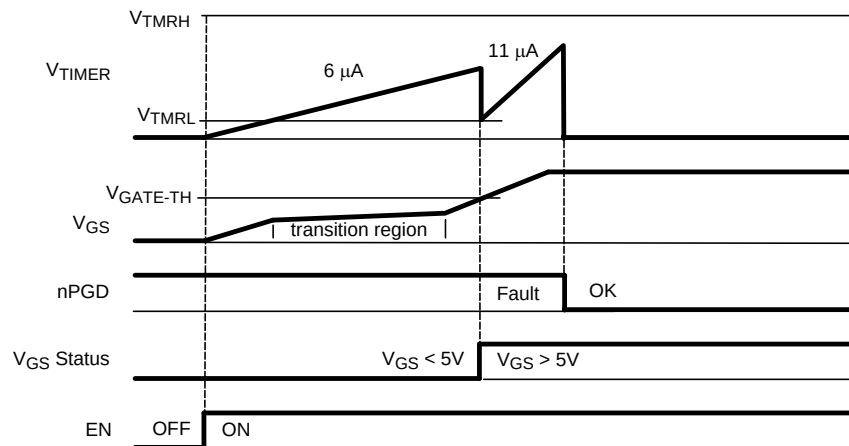
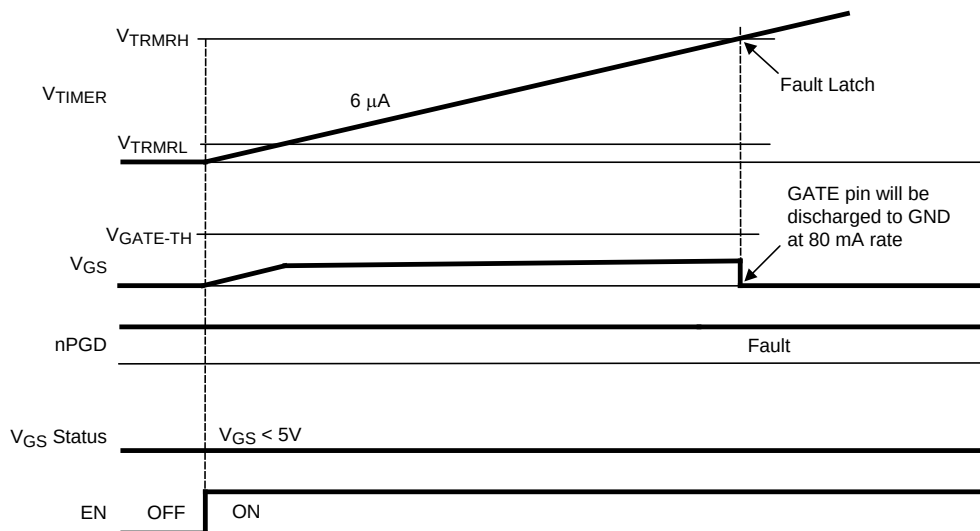
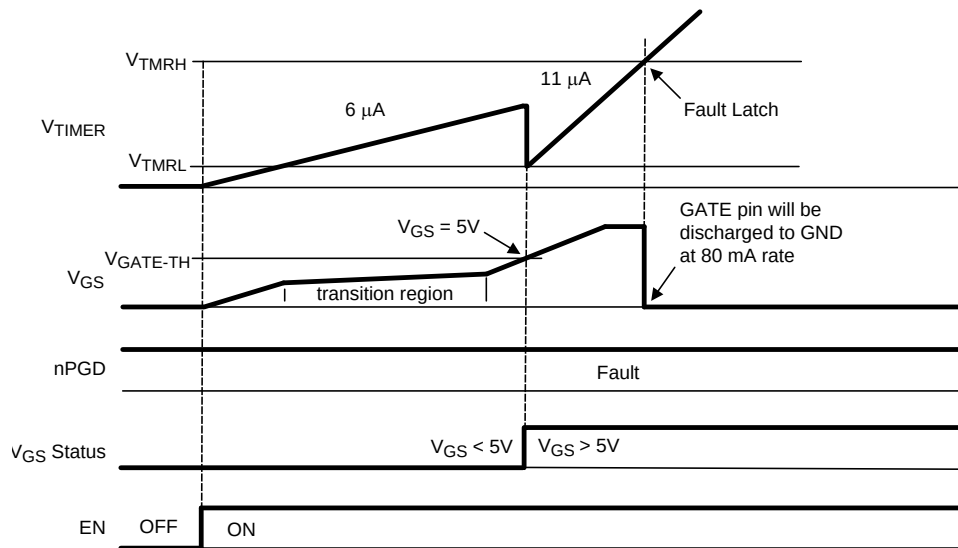

Figure 22. Voltages During Normal Start Up Sequence
Figure 23. Voltages During Startup with V_{GS} Gate Leakage Condition
Figure 24. Voltages During Startup with V_{DS} Fault Condition
After applying sufficient system voltage and enabling the LM5060 by pulling the EN and UVLO pins high, the timer capacitor will be charged with a 6 μ A (typical) current source. The timer capacitor is discharged when the voltage difference between the GATE pin and the OUT pin (i.e. V_{GS} of the external N-Channel MOSFET) reaches the $V_{GATE-TH}$ threshold (typically 5V). After discharging, the timer capacitor is charged with 11 μ A until either the V_{TMRH} threshold (typically 2V) is reached, or the sensed V_{DS} voltage falls below the threshold of the V_{DS} Fault Comparator, indicating the output voltage has reached the desired steady state level. The timer capacitor voltage waveforms are illustrated in Figure 22, Figure 23 and Figure 24.
2. Figure 23 shows a start-up waveform with excessive gate leakage. The initial charge current on the timer capacitor is 6 μ A (typical), while the simultaneous charge current to the gate is 24 μ A (typical). Due to excessive gate leakage, the 24 μ A is not able to charge the gate to the required typical 5V V_{GS} threshold and the V_{DS} Fault Comparator will indicate a fault when the timer capacitor is charged to the V_{TMRH} fault threshold. When the timer capacitor voltage reaches the V_{TMRH} fault threshold (typically 2V) the MOSFET gate is discharged at an 80 mA (typical) rate.
The LM5060 includes a V_{DS} Fault Comparator that senses the voltage difference between the SENSE pin and the OUT pin. If the voltage at the OUT pin falls lower than the voltage at the SENSE pin, the V_{DS} Fault Comparator will trip and switch the nPGD pin to a high impedance state. It will also initiate charging of the capacitor on the TIMER pin with a 6 μ A (typical) current source if V_{GS} is less than 5V, or a 11 μ A (typical) current source if V_{GS} is higher than 5V. If the voltage on the TIMER pin reaches the typical 2V fault threshold, the gate of the N-Channel MOSFET is pulled low with a 80 mA (typical) sink current. Figure 24 illustrates a V_{DS} fault condition during start-up. The nPGD pin never switches low because the V_{DS} fault comparator detects excessive V_{DS} voltage throughout the entire sequence.
After the OVP function has been activated and the gate of the external N-Channel MOSFET has been pulled low, the OUT pin is likely to be low as well. However, an OVP condition will not cause the V_{DS} Fault Comparator to latch off of the LM5060 because the capacitor on the TIMER pin is also discharged during an OVP event. After the OVP pin falls below the lower threshold (typically 1.76V), the LM5060 will re-start as described in the normal start-up sequence and shown in Figure 22. The EN, VIN, or UVLO pins do not need to be toggled low to high to re-enable the MOSFET after an OVP event.